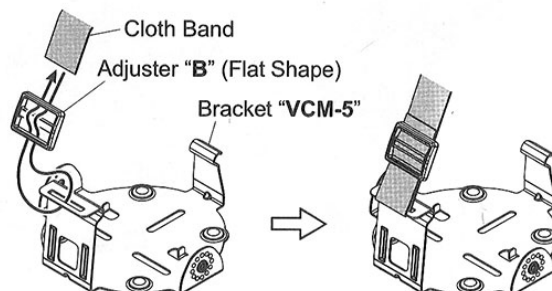

FIGURE 2
3. Install the Cloth Band and Adjuster "**B**" (Flat Shape) to the Bracket "**VCM-5**" (Figure 2).